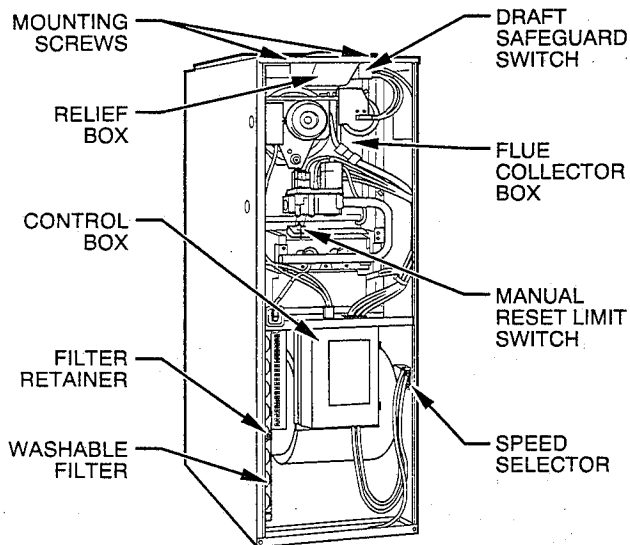

Fig. 6—Model 58WAV Upflow
Each furnace requires 1 or 2 filters which are installed in the blower compartment. (See Fig. 6.) To remove filters for cleaning or replacement, proceed as follows:
- c. Release filter retainer from clip at front of furnace casing. (See Fig. 6.) For side return, clips may be used on either or both sides of the furnace.
5. Remove electrical leads from numbered side of blower speed selector. (See Fig. 6 and 7.) Note location of wires for reassembly.
4. Remove 2 screws that secure relief box. (See Fig. 6 or 7.)